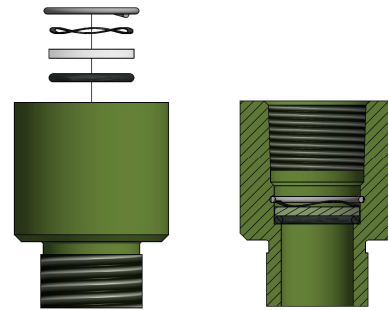

Figure 1: Glass Installation
1. Place thermal barrier THERMAL-75X75 so that the end with internal threads is facing up. In order, drop in the O-ring, glass, wave washer, and snap ring as shown in Figure 1. The snap ring should snap into the annular groove of THERMAL-75X75.